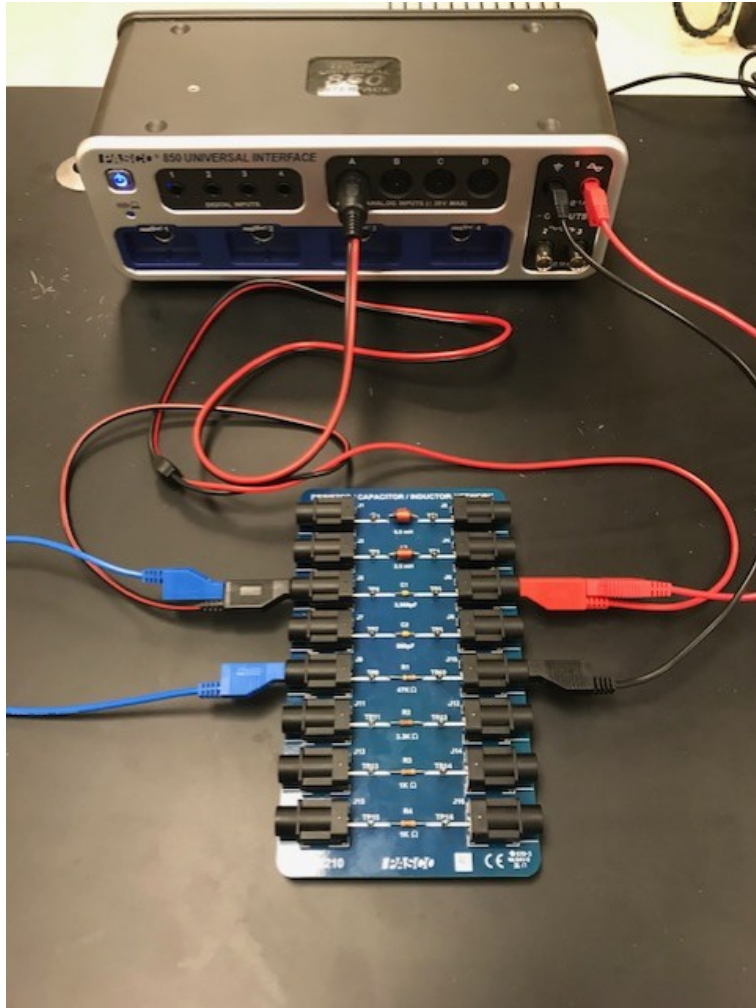

Figure 10: RC Circuit Setup
1. Turn ON the Universal Interface (Figure 10) and OPEN PASCO software.
1. Verify the circuit wires are connected to the 3900 pF Capacitor (Figure 10).